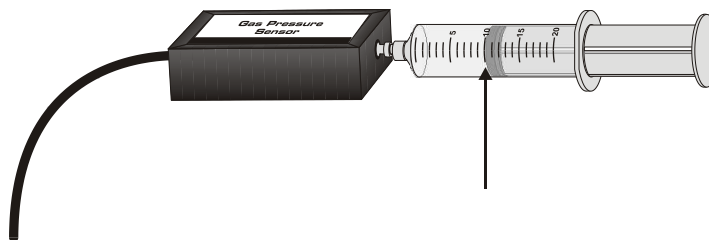

Figure 1
The primary objective of this experiment is to determine the relationship between the pressure and volume of a confined gas. The gas we use will be air, and it will be confined in a syringe connected to a Gas Pressure Sensor (see Figure 1). When the volume of the syringe is changed by moving the piston, a change occurs in the pressure exerted by the confined gas. This pressure change will be monitored using a Gas Pressure Sensor. It is assumed that temperature will be constant throughout the experiment. Pressure and volume data pairs will be collected during this experiment and then analyzed. From the data and graph, you should be able to determine what kind of mathematical relationship exists between the pressure and volume of the confined gas. Historically, this relationship was first established by Robert Boyle in 1662 and has since been known as Boyle's law.
- b. With the 20 mL syringe disconnected from the Gas Pressure Sensor, move the piston of the syringe until the front edge of the inside black ring (indicated by the arrow in Figure 1) is positioned at the 10.0 mL mark.